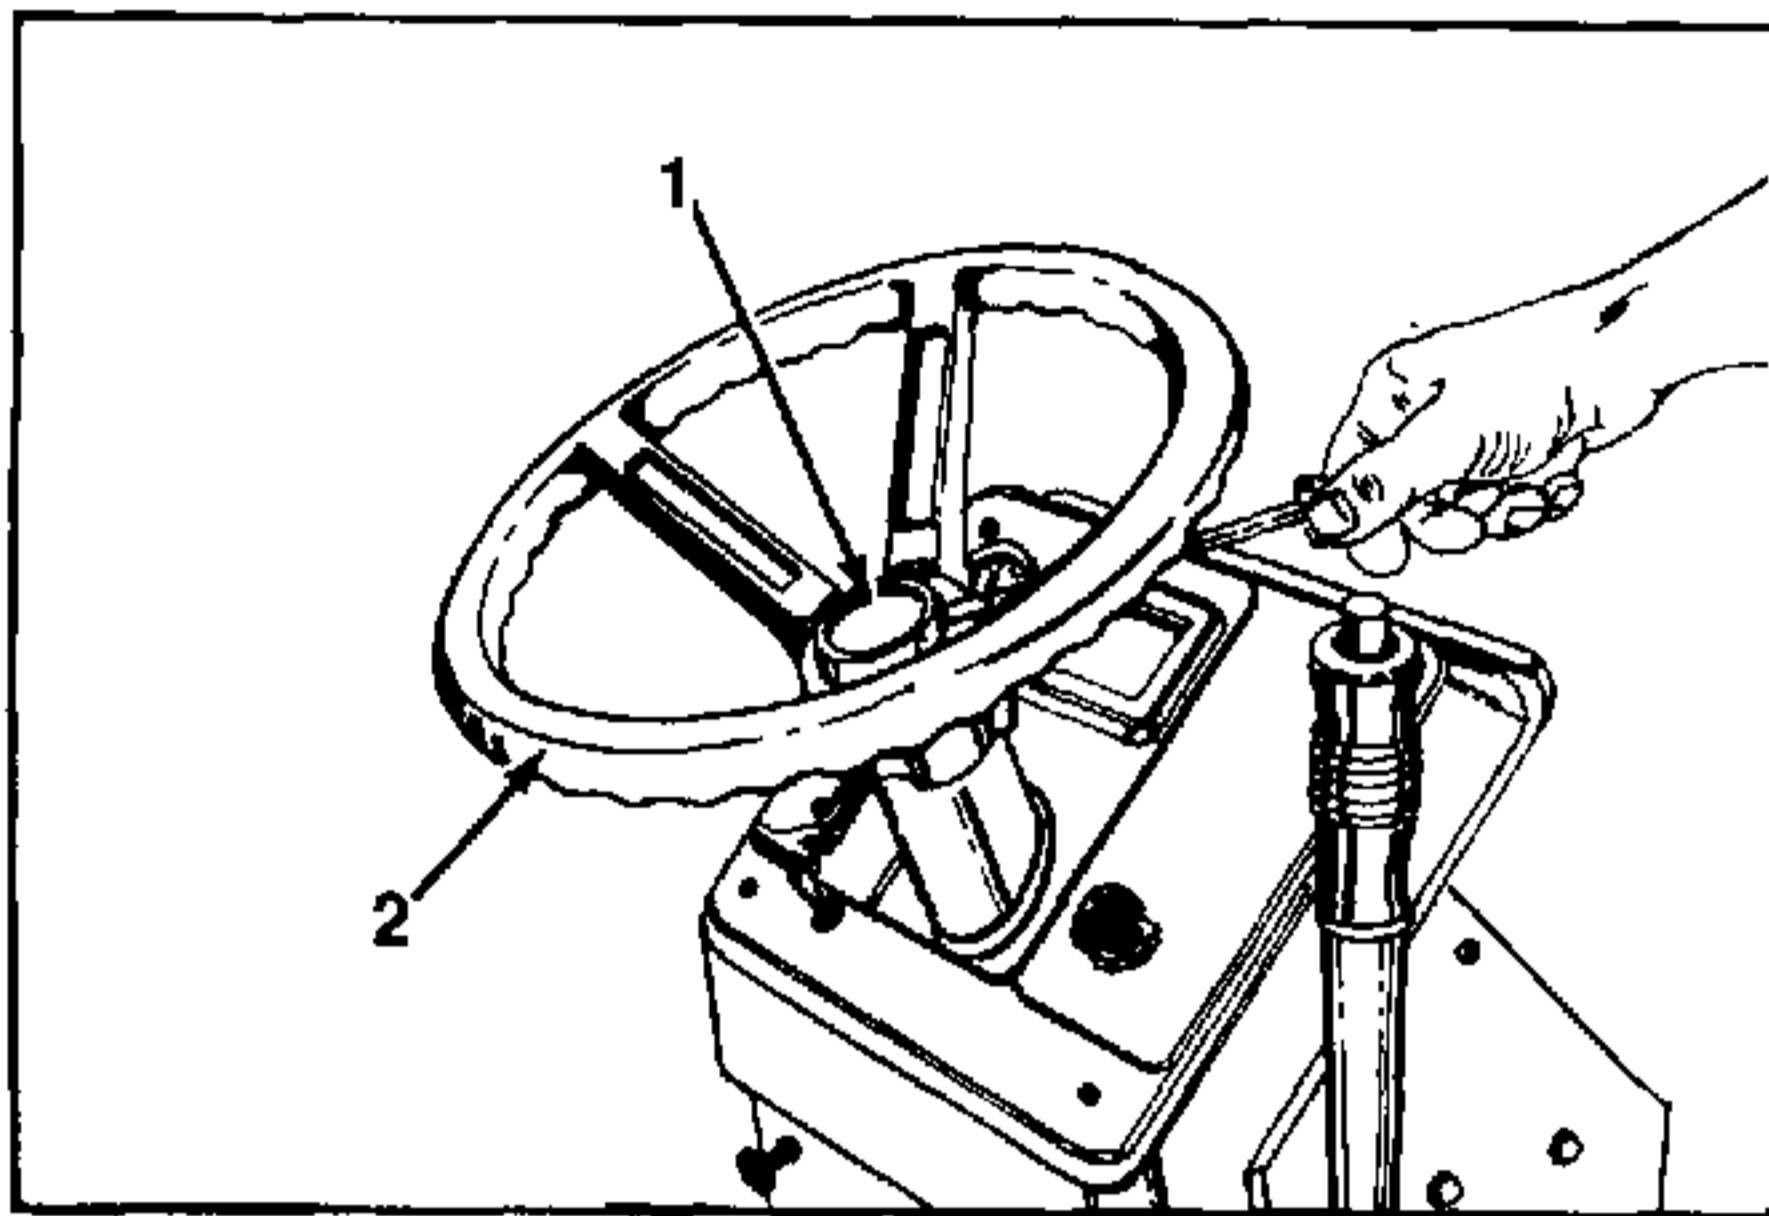

FIGURE 1.
1. With a screwdriver or suitable tool, remove the steering wheel cap (Ref. 1). Start to pry cap up and it will pop off. See figure 1.